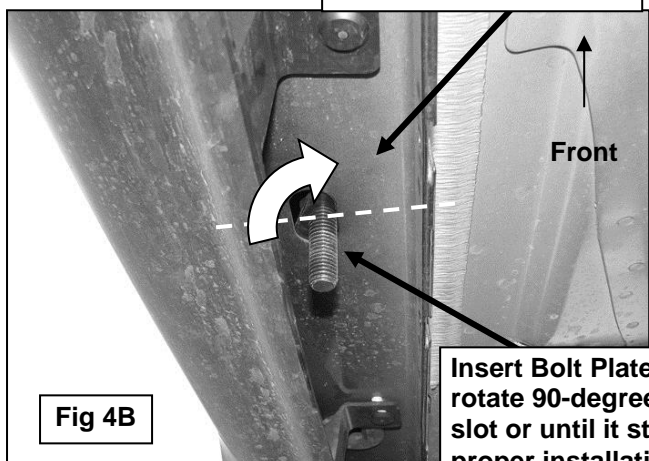

Fig 4B
1. Starting at the passenger side front, locate the 3 pairs of (2) small holes in the pinch weld, (**Figures 1 & 2**). Remove the rubber plug filling the oval hole in the bottom of the rocker panel directly in front of the (2) holes, (**Figure 3**). Select (1) 12mm Bolt Plate and (1) 12mm Plastic Retainer, (**Figure 4A**). Thread the Retainer part way onto the Bolt Plate. **NOTE:** The Retainer will help hold the Bolt Plate in position during Bracket installation. Insert the Bolt Plate into the hole and rotate 90-degrees to the slot, (**Figures 4B & 5**). Thread the Retainer down until it is tight against the sheet metal.